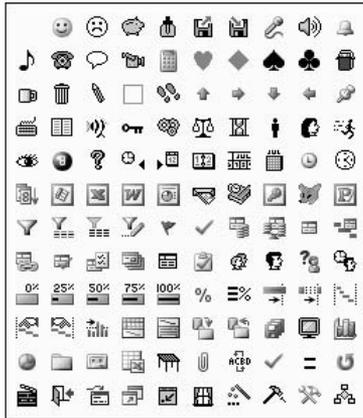

Figure 23-27: From an hourglass to an eightball, these images are both clever and descriptive.
4. Click the Modify Selection button, and select Change Button Image. The pop-up palette of images appears, as shown in Figure 23-27.